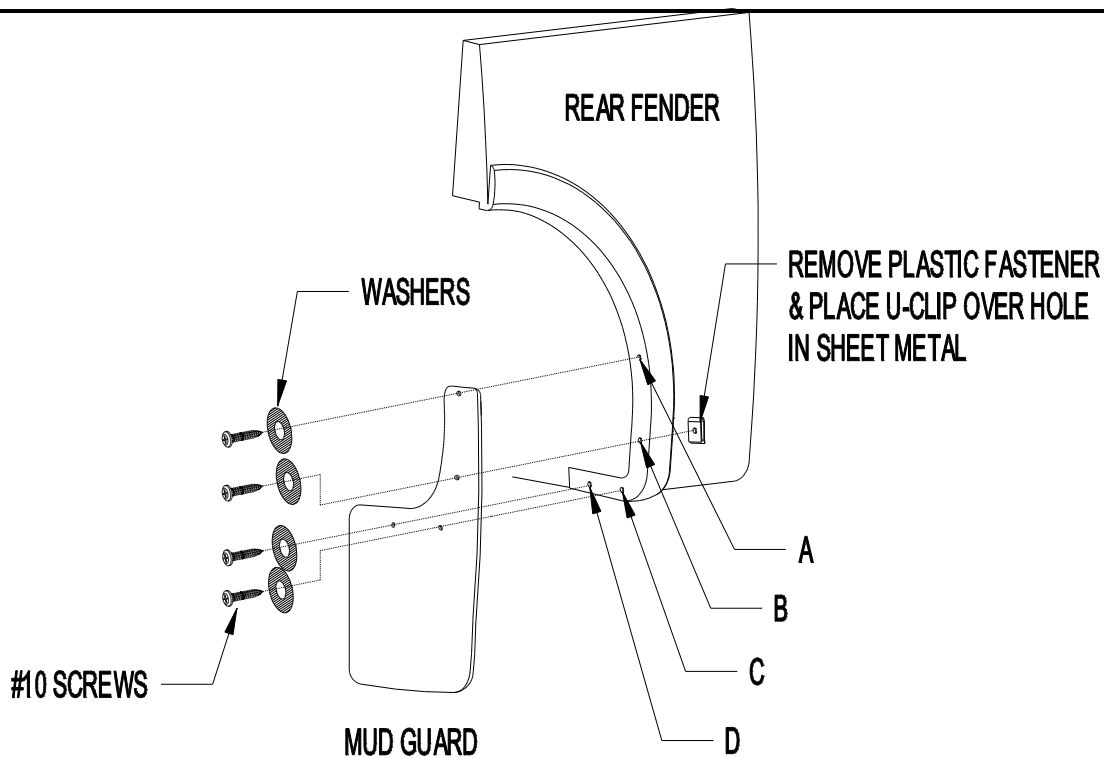

Figure 1
4. Using the mud guard as a template, center punch and drill an 1/8" hole at location A, C, and D (Figure 1).